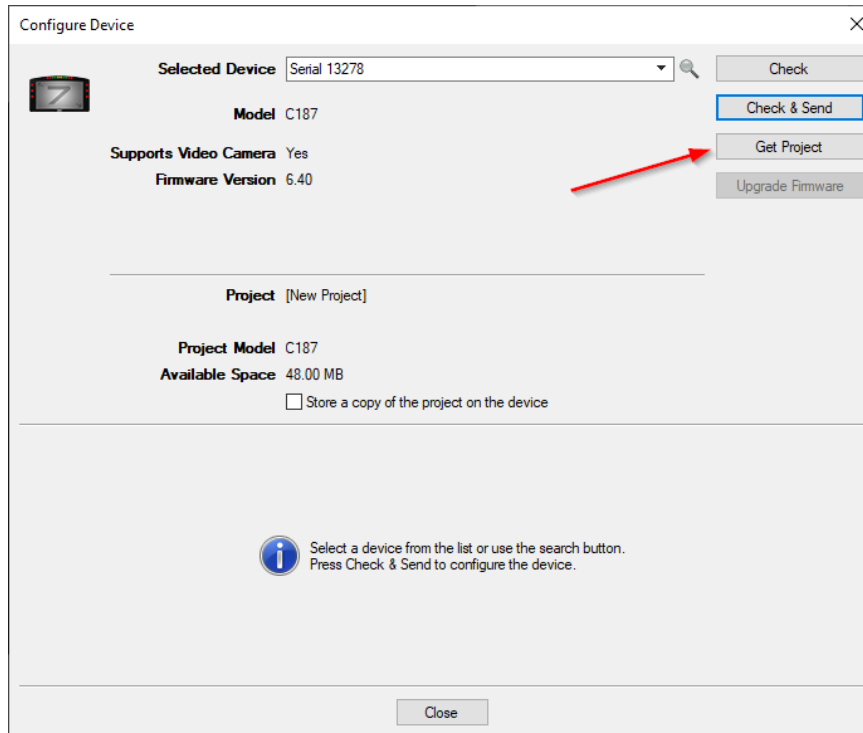

Figure 4.42: Display Creator – downloading a project from the dash.
5. Now you will want to retrieve the existing Display Creator project from the dash by selecting 'Get Project' as shown in Figure 4.42.